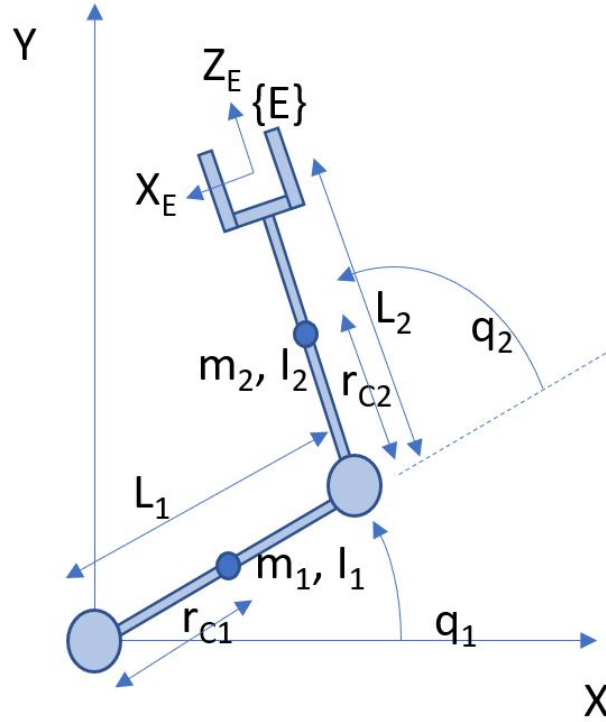

Figure 1: Planar Robot to be simulated. Note that gravity is acting in the negative Y direction.
In the first task, construct a MATLAB code that represents a 2 link RR (revolute-revolute) robot as shown in Figure 1.
For Task 1, perform the necessary calculations to obtain the equation of motion for the robot described in Figure 1, using the provided sample code *Example_RP_robot.m* and *runrobot.m* as a starting point.
For your own enjoyment, produce an XY robot animation plot, i.e. the plot of link 1 and link 2 (and the end-effector) of the robot movement in space (like in Figure 1) using MATLAB plot function, such that way you can watch the movement of the robot that you produce visually. This animation can be produced by combining the plot function and the *pause* function. Dictate the values of the axes so MATLAB does not adaptively re-adjust the axes.
3. produce the XY plot of the robot (like in Figure 1) which consist of link 1 and link 2 (and the end-effector, e.g. marked with a circle of triangle), every 0.5s. (meaning at $t = [0, 0.5, 1, \dots, 5]s$) for the resulting robot motion in Task 2.
2. produce the XY plot of the robot (like in Figure 1) which consist of link 1 and link 2 (and the end-effector, e.g. marked with a circle or triangle), every 0.5s, (meaning at $t = [0, 0.5, 1, \dots, 5]s$) for the resulting robot motion in **Trajectory A**. Comment on the difference between the resulting motion and that produced in Task 2.
3. produce the XY plot of the robot (like in Figure 1) which consist of link 1 and link 2 (and the end-effector, e.g. marked with a circle or triangle), every 0.5s, (meaning at $t = [0, 0.5, 1, \dots, 5]s$) for the resulting robot motion in **Trajectory B**.
2. produce the XY plot of the robot (like in Figure 1) which consist of link 1 and link 2 (and the end-effector, e.g. marked with a circle or triangle), every 0.5s, (meaning at $t = [0, 0.5, 1, \dots, 5]s$) for the resulting robot motion in **Trajectory A**. Comment on any observation you had between the resulting motion and that produced in Task 3.